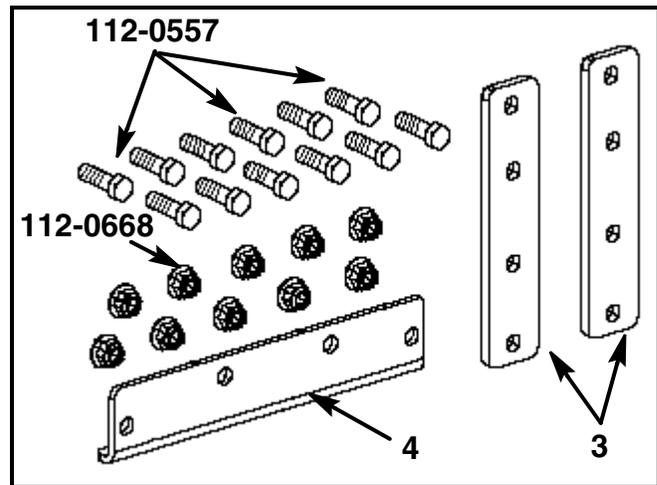
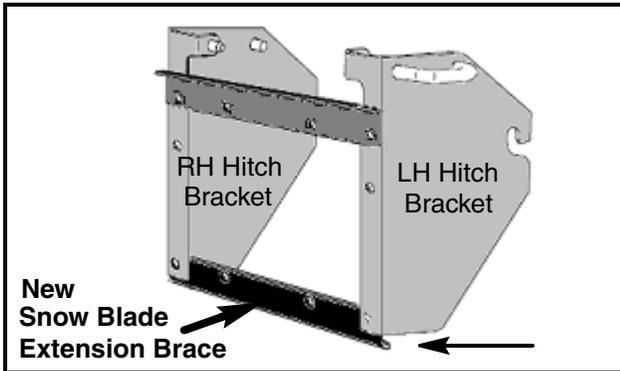

FIGURE 1
FIGURE 3
See Figure 1
6. Install the snow blade extension brace, Ref.# 4 in Figure 1, on the back side of the right and left hand hitch brackets with the short leg of the brace towards the tractor. See Figure 3.